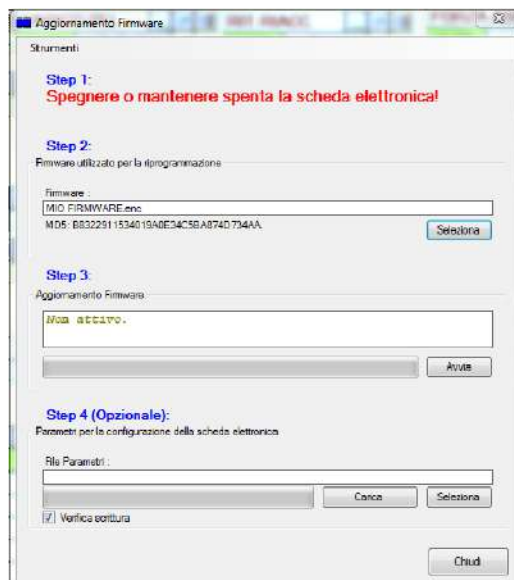

figure 37
C. Select the file (type ENC) containing the stove’s operating program. (figure 37).